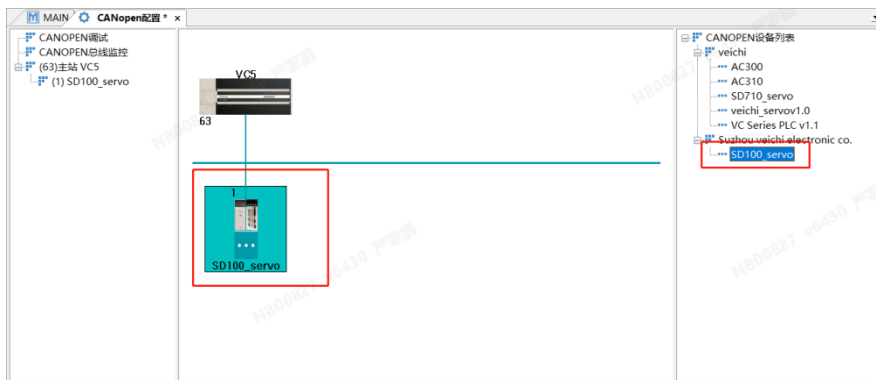

Figure 3-14 Adding devices to bus
Step 6: After importing the EDS file, the device option with the same name as the controller will appear in the list on the right. Double-click to configure the controller to the bus deployment on the left, as shown in Figure 3-14.